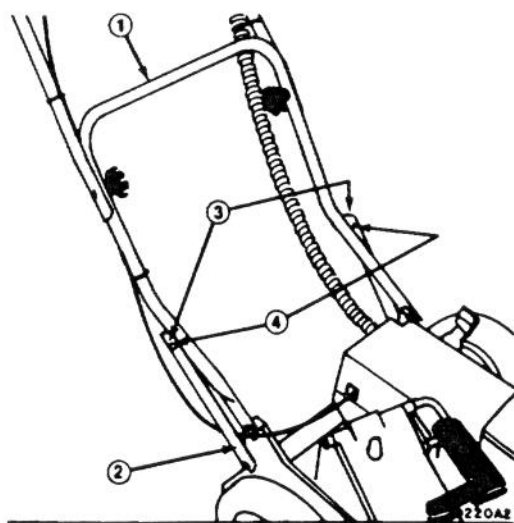

Figure 2
2. Pivot handle backward until handle studs can be snapped into center holes of handle latches (Fig. 2). Make sure control cables are to the rear and inside of handles.